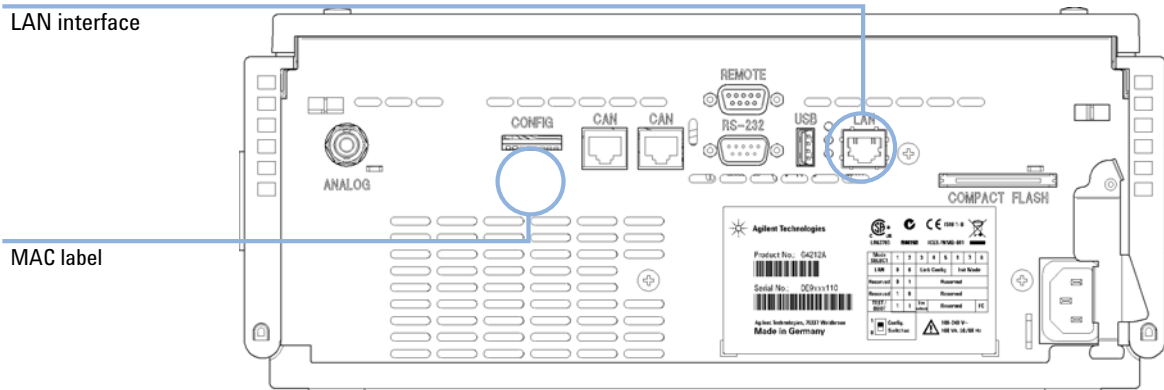

Figure 21 Location of LAN interfaces and MAC label
- 1 Note the MAC address of the LAN interface (rear of the module, under the configuration switch, see Figure 21 on page 66). It's required for LAN Configuration (see Chapter "LAN Configuration").
- 1 Note the MAC (Media Access Control) address for further reference. The MAC or hardware address of the LAN interfaces is a world wide unique identifier. No other network device will have the same hardware address. The MAC address can be found on a label at the rear of the module underneath the configuration switch (see Figure 21 on page 66).
- 2 Connect the instrument's LAN interface (see Figure 21 on page 66) to